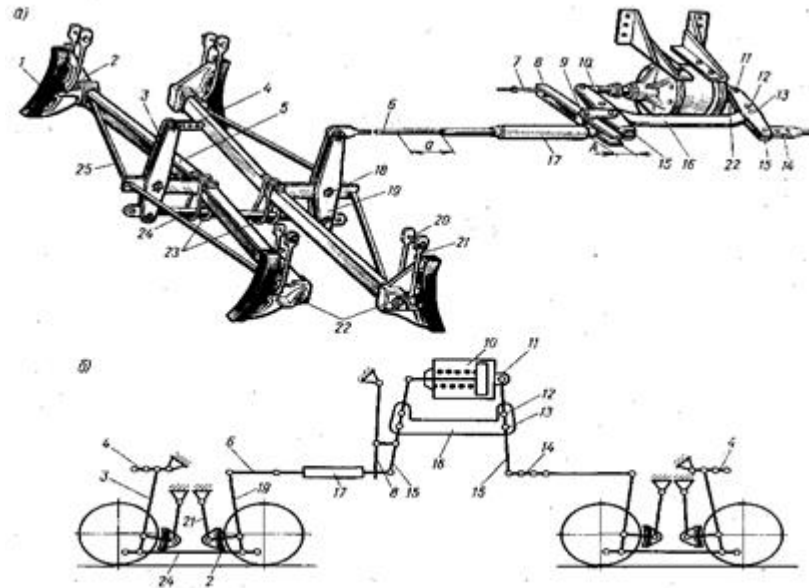

Figure 1.2. Typical brake leverage mechanism for a freight car
*.pf-files describe parameters of brake's leverage mechanism in between a brake cylinder and brake pads, see figure 1.2.